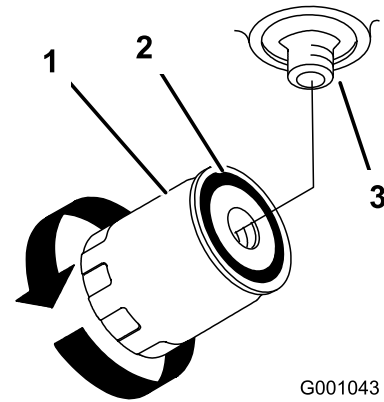

Figure 79
4. Remove the old filter and wipe the filter adapter gasket surface clean (Figure 79).
6. Install replacement hydraulic filter onto the filter adapter. Turn the oil filter clockwise until the rubber gasket contacts the filter adapter, then tighten the filter an additional 1/2 turn (Figure 79).